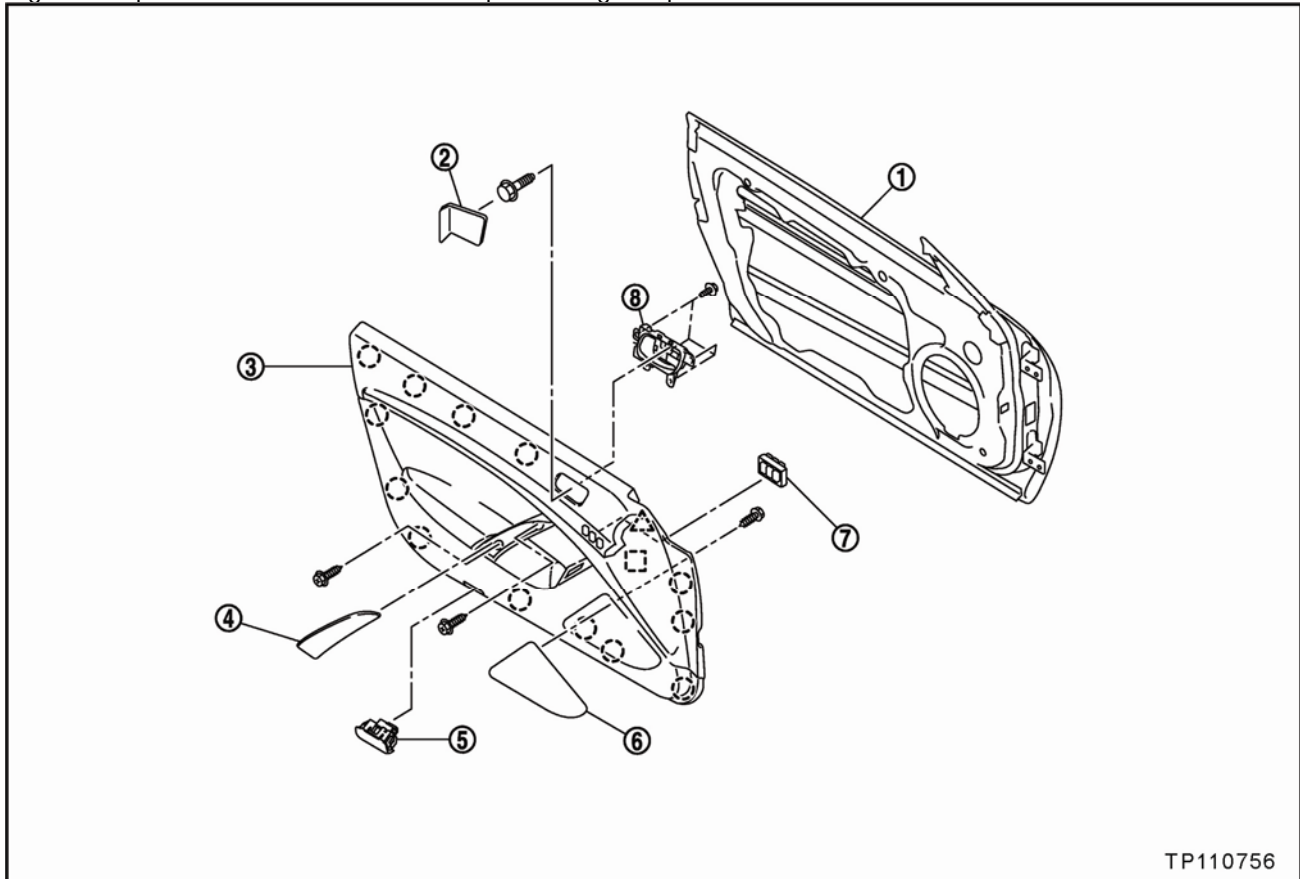

Figure 1
Figure 1 is provided as a reference while performing this procedure.
- Insert a plastic trim tool (A) behind the door finisher (1) to disengage the clips.
- Refer to Figure 1 on page 2 for location of 12 clips.